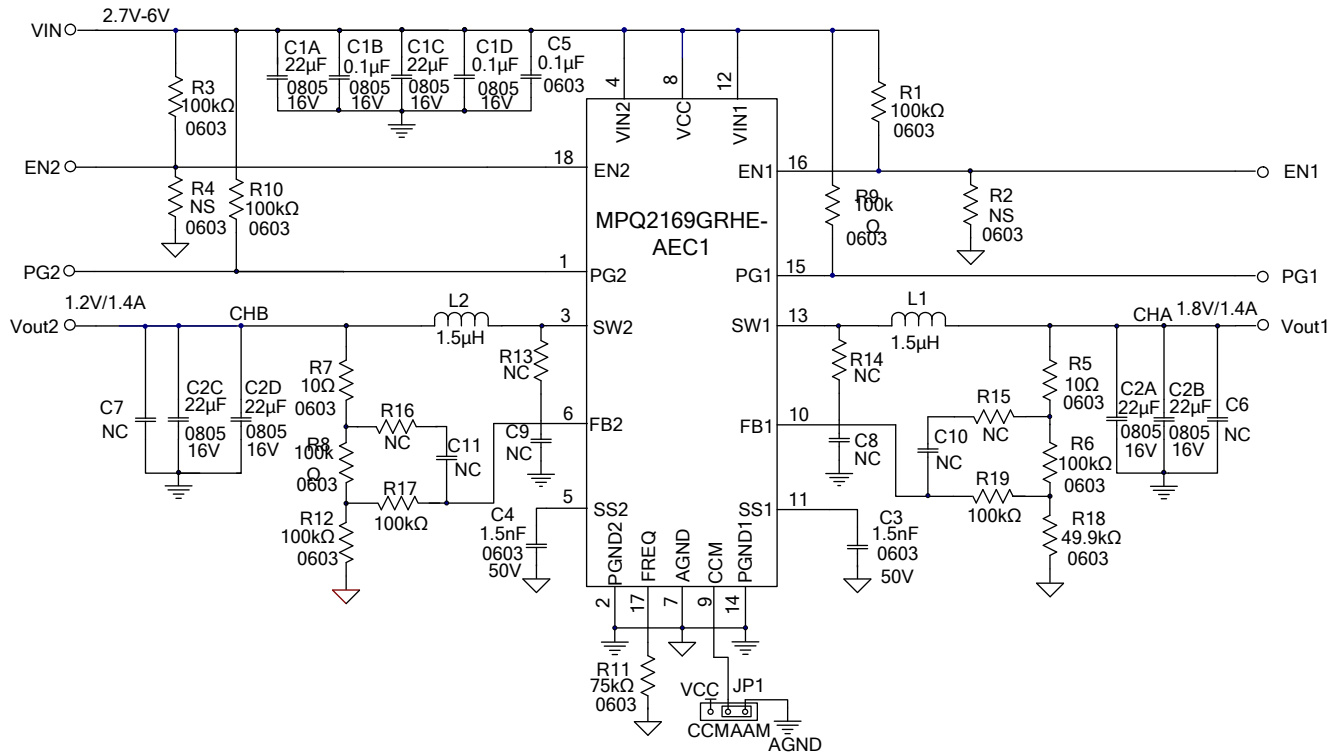

Figure 7: 1.4A/1.4A Application Circuit (MPQ2169GRHE-AEC1)
5) The recommended PCB layout is based on Figure 7.